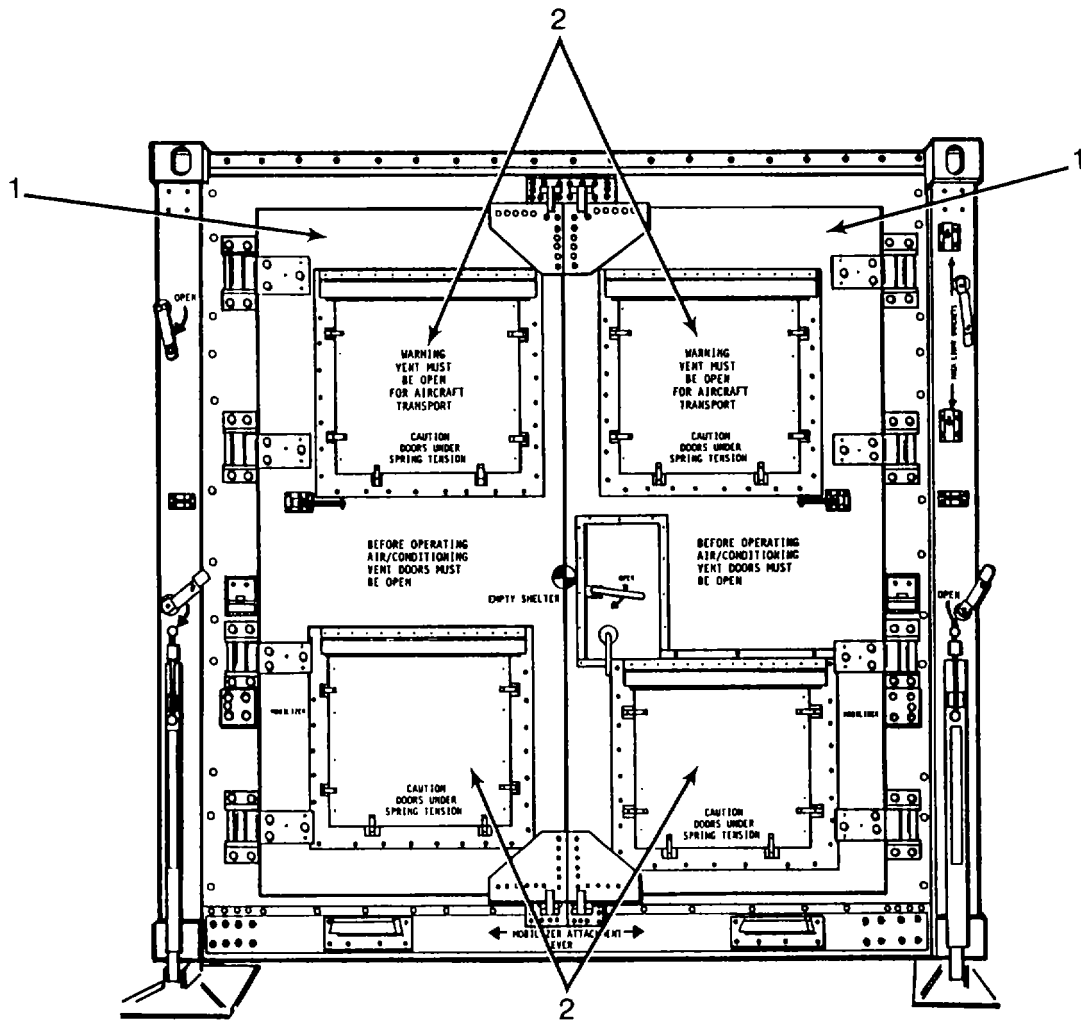

Figure 1-3. Outside Rear View of Press Section
b. Outside Rear View of Shelter. Refer to Figure 1-3 for location of major components.
(1) Cargo Doors-Provides access to air conditioning units.
(2) Air Conditioner Vents-Provides fresh air circulation for air conditioners. Must be opened for operation and for transport by aircraft.